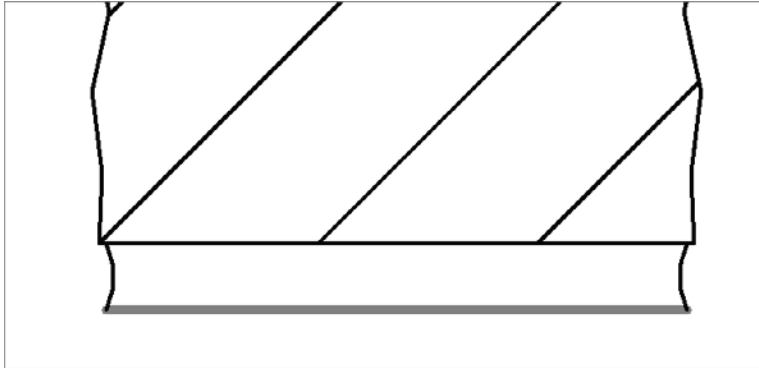

FIGURE 12.22 Adding the mortar joint
3. Draw two arcs to the left and right of the bottom of the brick, as shown in Figure 12.22.